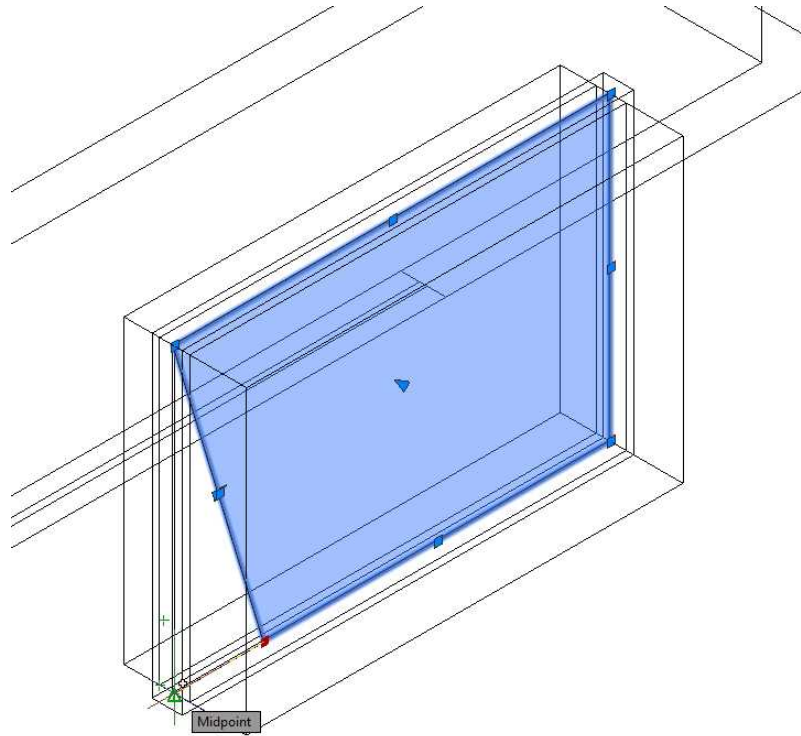

FIGURE 16.39: Adjusting the size of the window glazing
13. Use the Midpoint osnap to extend them to the new frame size (see Figure 16.39).